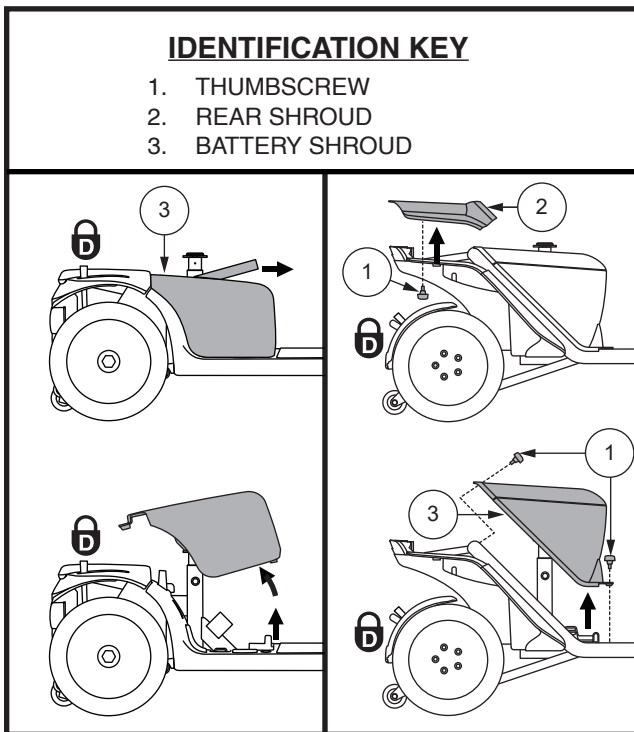

Figure 14. Battery Shroud Removal/Installation
1. Remove the seat and battery shroud. See figure 14.
- a.) For models 614 and 714, remove the rear shroud by removing the two (2) thumbscrews that secure it to the scooter frame, and then lifting the shroud straight up and off of the scooter. See figure 14.
- b.) For models 614 and 714, remove the battery shroud by removing the four (4) thumbscrews that secure it to the scooter frame, and then lifting the shroud straight up and off of the scooter. See figure 14.